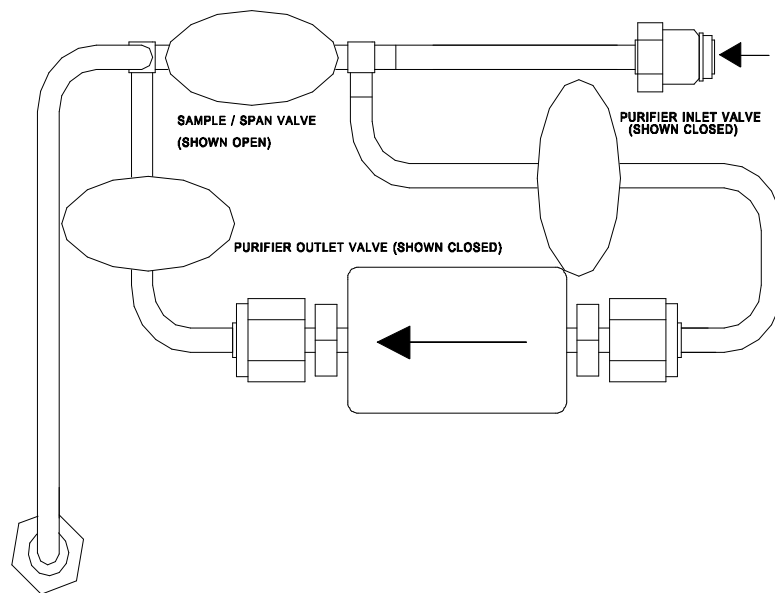

Figure 52: Valve Handle Positions When Changing the Gas Purifier
1. The analyzer must be in the process measurement mode by placing the valve handles in the positions as shown in Figure 52: Valve Handle Positions When Changing the Gas Purifier
5. Install the purifier with the flow direction arrow as shown in Figure 52. It may be necessary to slightly spring the calibration system plumbing to insert the gas purifier.